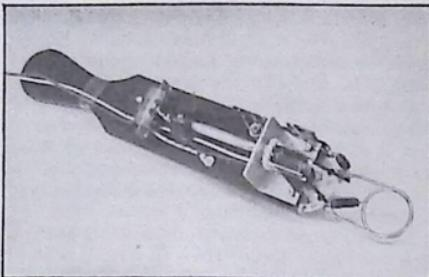

Fig. 7-15 — A handy probe-type grid-dip meter for the v.h.f. man. The tuned circuit and the acorn tube are mounted at one end of the "paddle."
**I**F you do much construction work in the v.h.f. range, you will appreciate the need for a sensitive grid-dip meter to check the resonant frequency of an unknown tuned circuit. It must be small enough to couple into some of the rather minute tuned circuits that are used. To fill such a need in the Headquarters lab, the gadget shown in Fig. 7-15 was built. It is patterned after the one described in March, 1948, *QST* by W2BFD.